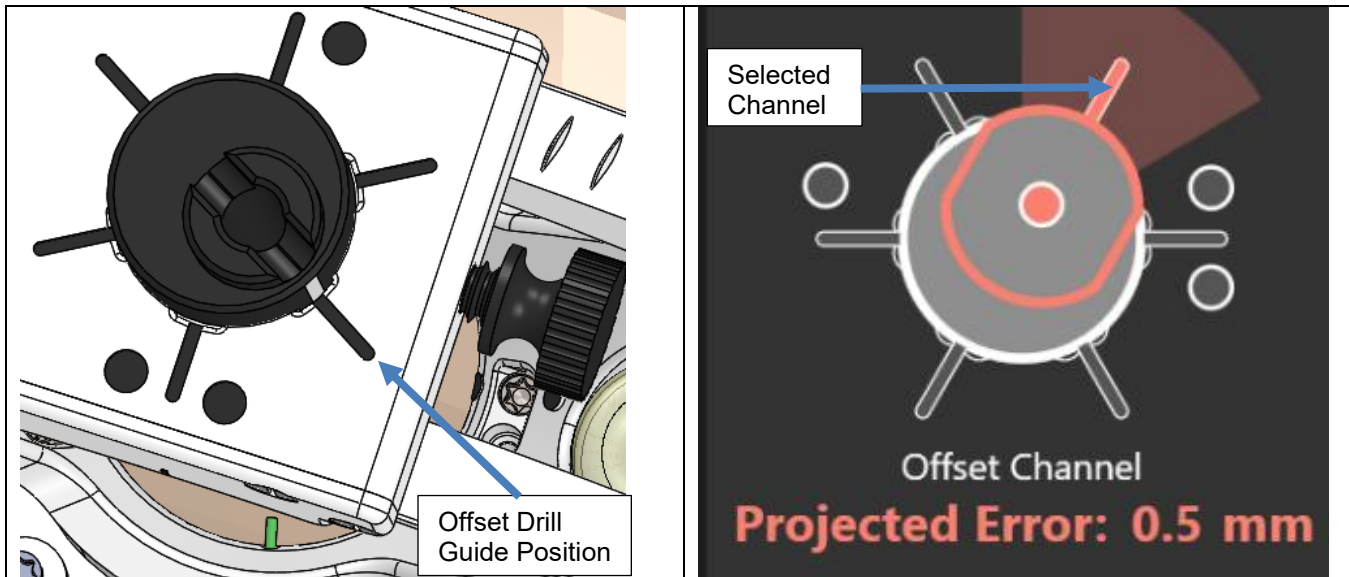

Figure 134: Offset Drill Guide inserted into the position that was selected in the ClearPoint Array Software
5. Verify that the Drill Guide is positioned in the channel selected in the ClearPoint Array software. The orientation dots on the tower match up with those shown on the software. **See Figure 134.** If it is not, loosen the tower side thumbscrew, raise the Drill Guide and rotate it until the tab (white line) aligns with the correct position. Then, repeat Step 4.